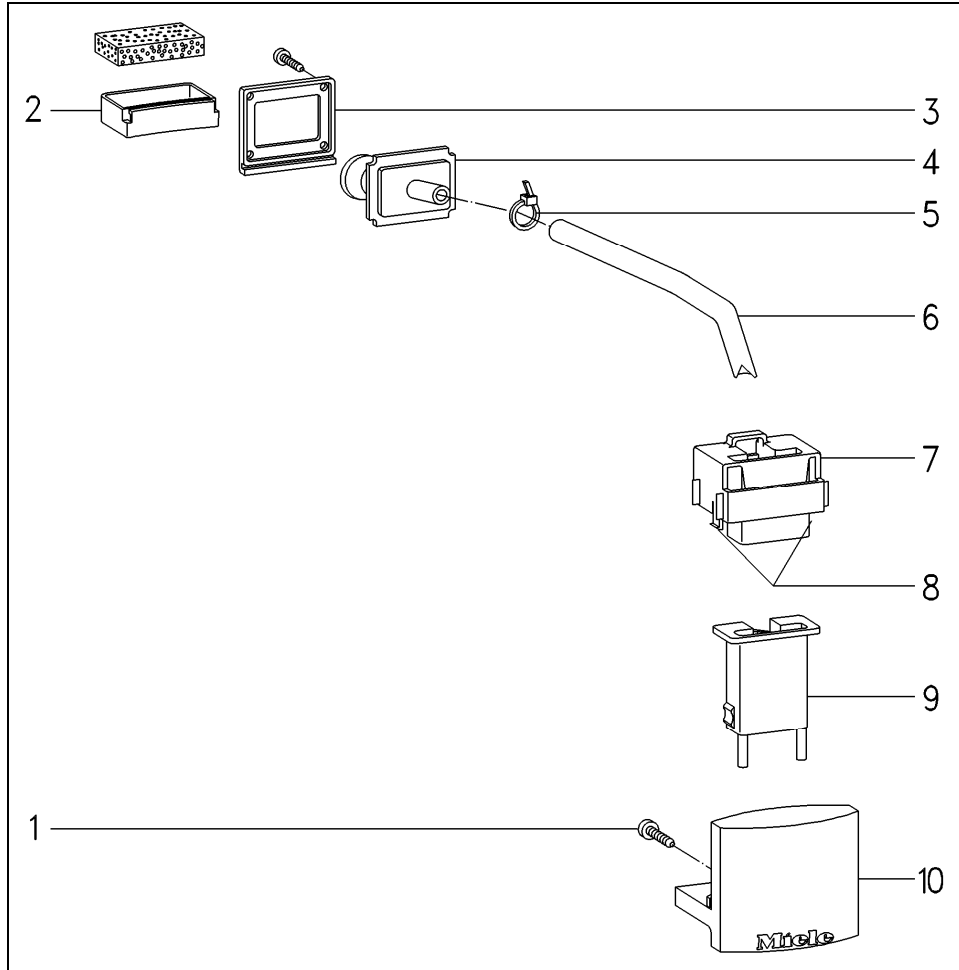

Figure 5-17: Dispenser Assembly Components
6. Pull out the hose (Figure 5-17, Item 6) from the outlet (Figure 5-17, Item 7).
7. Pull out the dispenser assembly (Figure 5-17, Item 9) partway.
- Slide the outlet (Figure 5-17, Item 7) onto the connection hose (Figure 5-17, Item 6).
- Position the dispenser assembly (Figure 5-17, Item 9) in the cover (Figure 5-17, Item 10).
- Clip the outlet (Figure 5-17, Item 7) in the cover (Figure 5-17, Item 10).